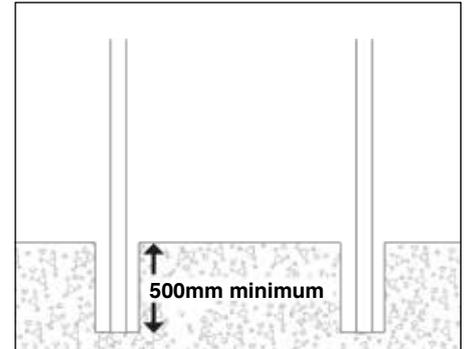

Figure 5
- A.** Dig the footing holes for the posts. Holes must be a minimum of 250mm in diameter and 500mm deep into compact and solid ground. Adjust the holes dimension without reducing the height of the post above the ground, see **Figure 5**. Check and measure the height of the posts to allow for at least 1830mm height (for 1.8m fence).